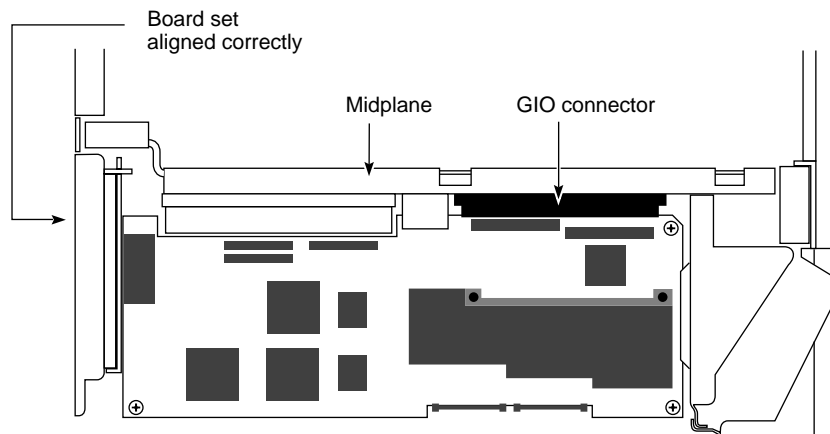

Figure 5-63 Correctly Aligned Board Set
4. Visually check to be sure the boards are completely seated in their connectors. The board set should not look tilted when viewed from above. See Figure 5-63.